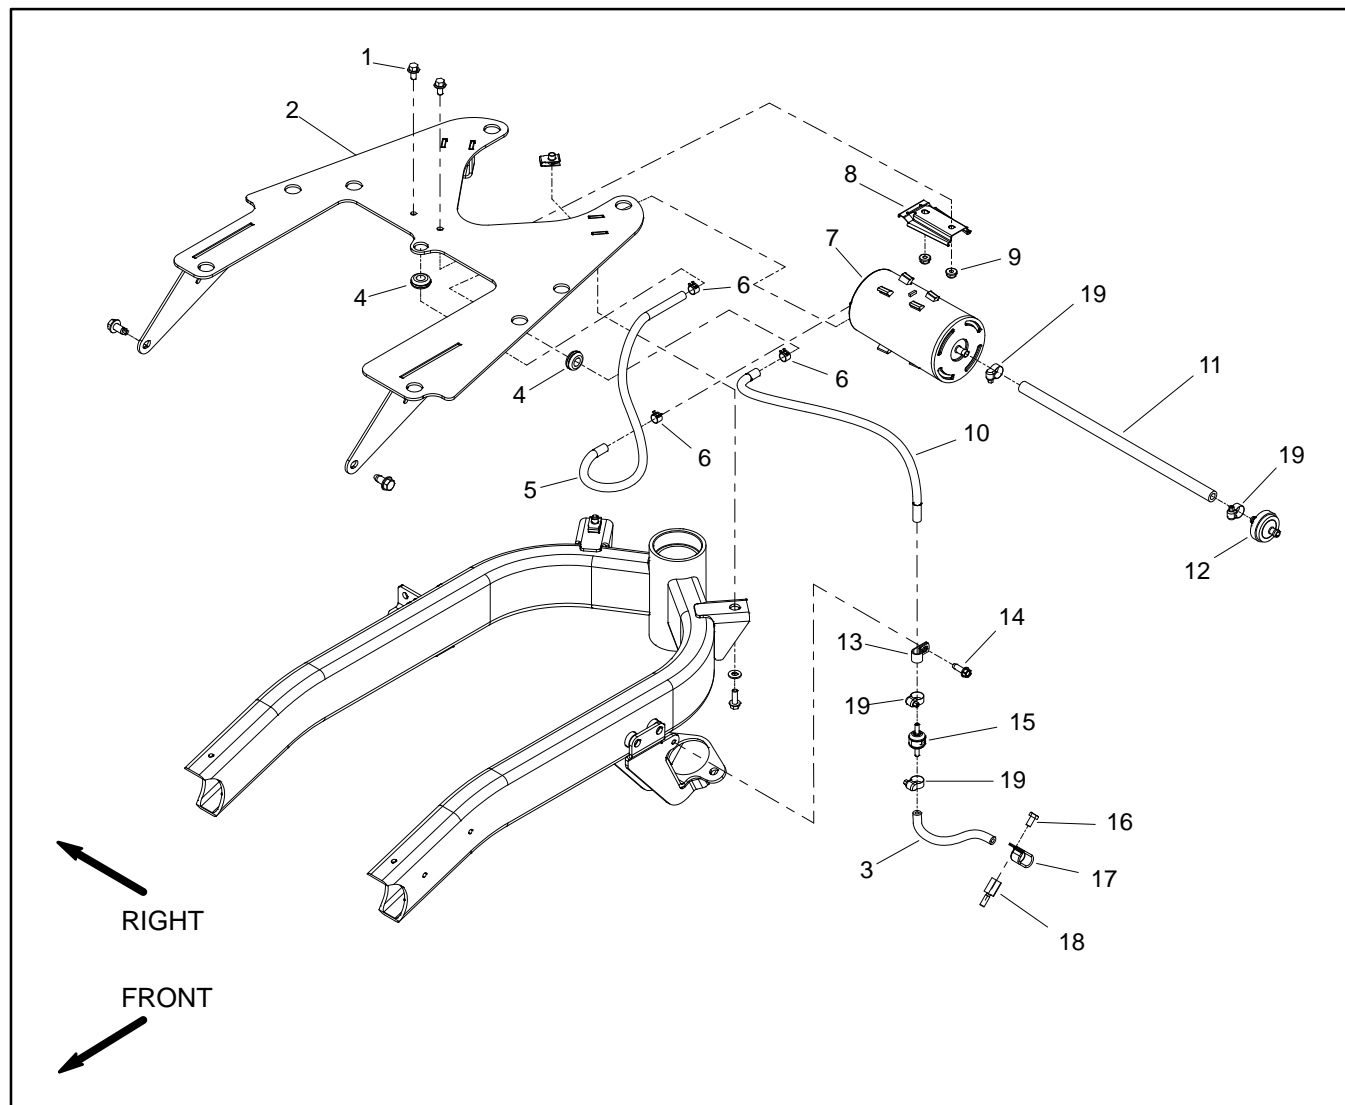

Figure 3
### Removal (Fig. 3)
4. Remove components as needed using Figure 3 as a guide.
A. If check valve (item 15) is removed, note direction of arrow on valve body for assembly purposes.
### Installation (Fig. 3)
1. Install all removed components using Figure 3 as a guide.
A. If check valve (item 15) was removed, make sure that arrow on valve body points toward engine.